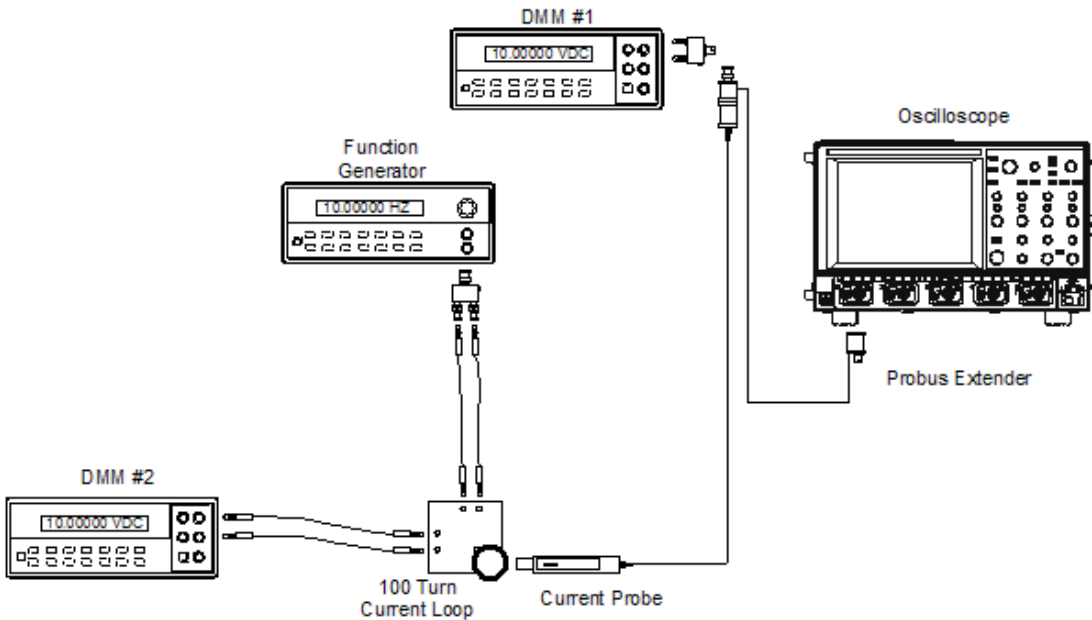

Figure 2. LF accuracy adjustment set up.
3. Using banana patch cords, connect the 'V Source' and 'V Return' terminals of the 100 Turn Calibration Loop, to the output of the Function Generator using the BNC to Dual Banana Plug Adapter output. (Refer to Figure 2.)